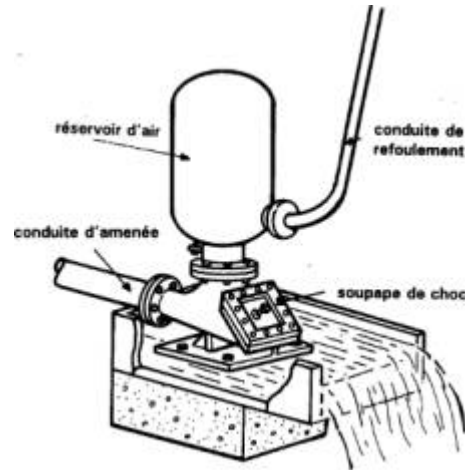

Figure 3 - Hydraulic ram pump as used in South East Asia (Source [3] « Econogie »)
- Figure 3 - Hydraulic ram pump as used in South East Asia (Source [3] « Econogie »)